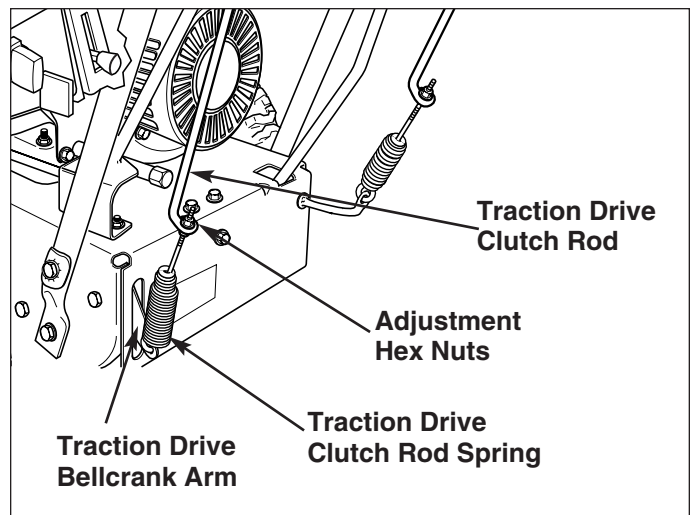

Figure 19. Traction Drive Clutch Rod Adjustment
1. Loosen adjustment hex nuts (Figure 19).